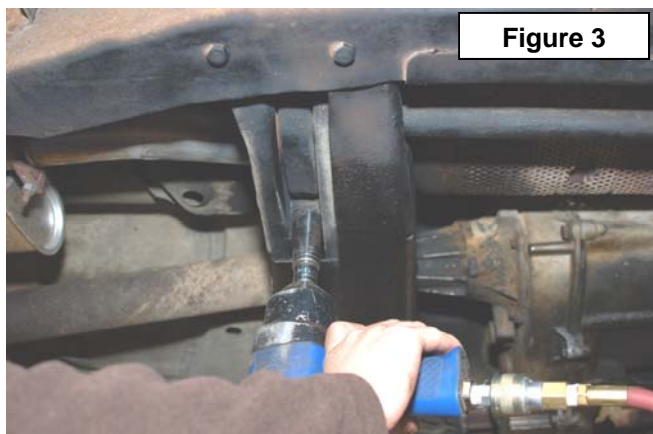

Figure 3
3. Unload the torsion bars. Remove the bolt and adjuster block and remove the torsion bar adjusters. **See Figure 3 & 4.** Be extremely careful when loading or unloading the torsion bars: there is a tremendous amount of stored energy in the bars. Be sure to keep your hands and body clear of the adjuster arm assembly and puller tool in case anything slips or breaks.